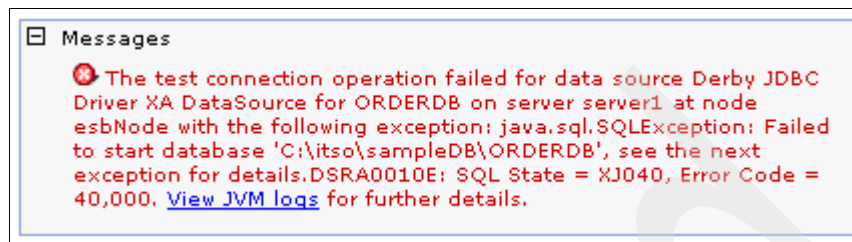

Figure 5-29 Test connection fails
10. Select the box to the left of the data source and click **Test connection**. It should show success. However, you might see an error message similar to that shown in Figure 5-29.